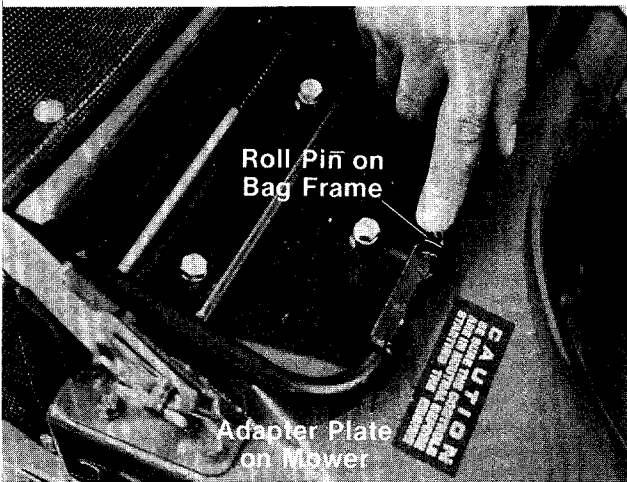

FIGURE 15.
- Tilt bag slightly forward and slide roll pin on bag frame into slot on mower. See figure 15. Push down on bag to position on mower.